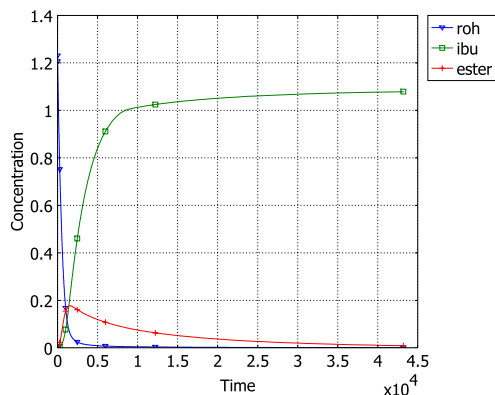

Figure 4-70: Selected species concentrations (mol/m^3) as a function of time (s).
This expansion of the original case adds a reversible reaction between the reactant alcohol and the product ibuprofen to form an ester. Figure 4-70 shows the concentration of ibuprofen and ester over time.
- 5 Click **OK** create Figure 4-70.